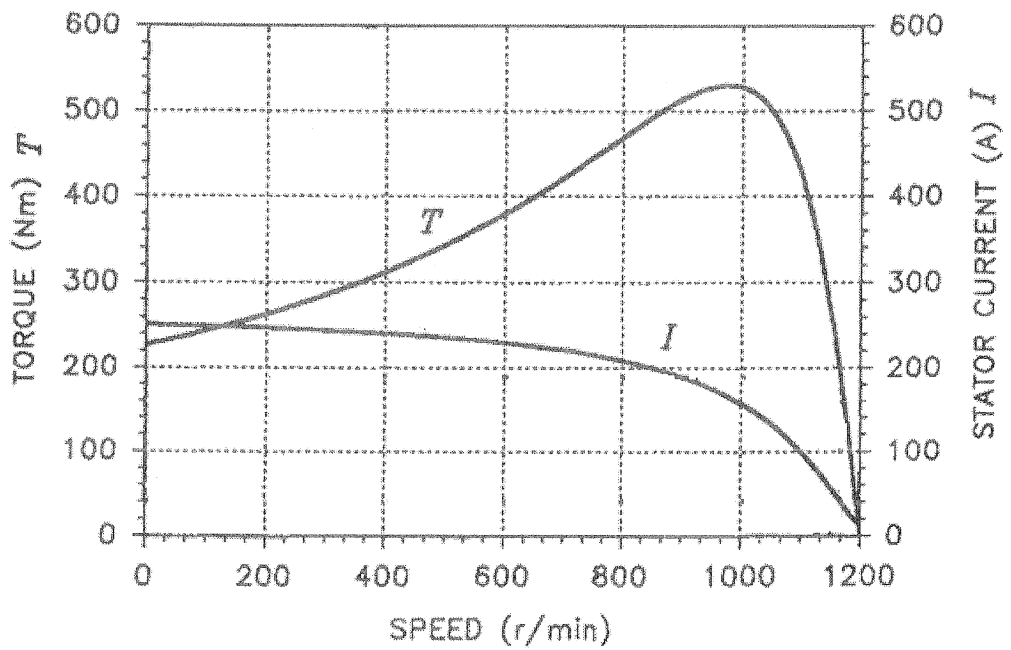

Figure: Q5 (c)
- c) You have been given a three-phase induction motor with the characteristics shown in **Figure Q5 (c)**. It is required to design a mixing machine using this motor. The mixer load torque is constant for all the speeds. As a safety measure the motor should never be loaded more than 50% of its maximum available torque. Select the maximum mixer load torque that satisfies the above conditions. Determine the operating motor speed and stator current for your selection?